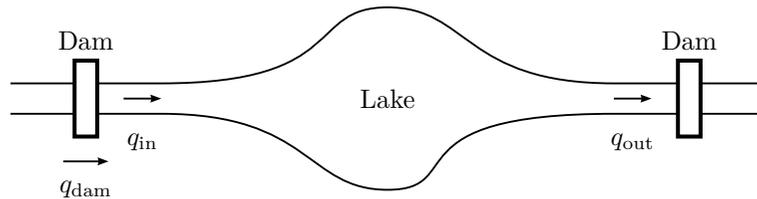

Figure 3.14a
3.14 We want to control the level in a lake by controlling the flow using flood gates, see Figure 3.14a. The relationship between changes in the level of the lake,